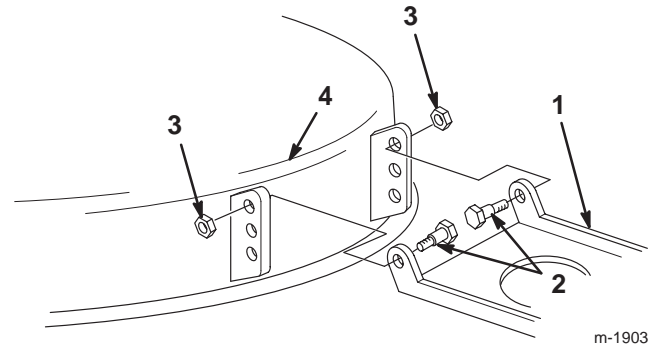

Figure 49
18. If you cannot get a 1/4 to 5/8 in. (6 to 16 mm) front slope by rotating the slope adjusting nut, move the mower pivot mount at the mower (Fig. 49).
19. Remove the shoulder bolts and locknuts from the mower (Fig. 49).
20. Lower the mower pivot a hole and install the shoulder bolts and locknuts (Fig. 49).